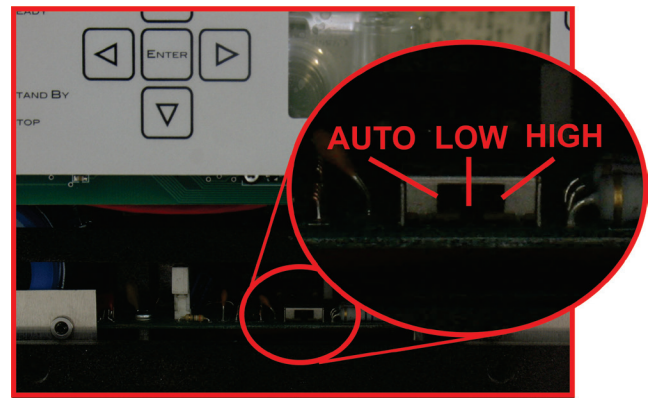

Figure 4.7 – Bi-Level Power Switch Location
4. Locate the Bi-level Power Supply Switch as shown in **Figure 4.7**.